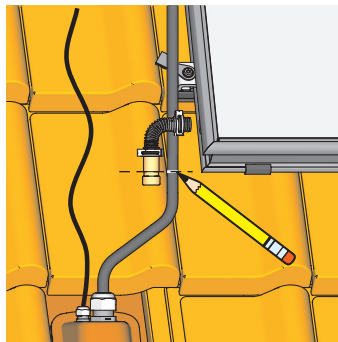
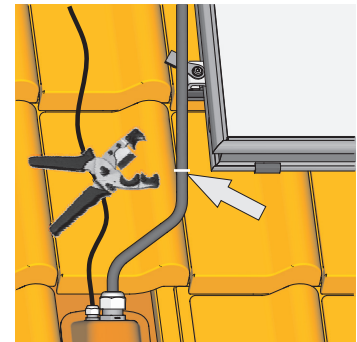

Fig. 3-33 Work step 11- marking out
Fig. 3-34 Work step 11- cutting off
11. Bend the connecting pipes as necessary, mark the required length (Fig 3-33), and cut off (Fig 3-34).